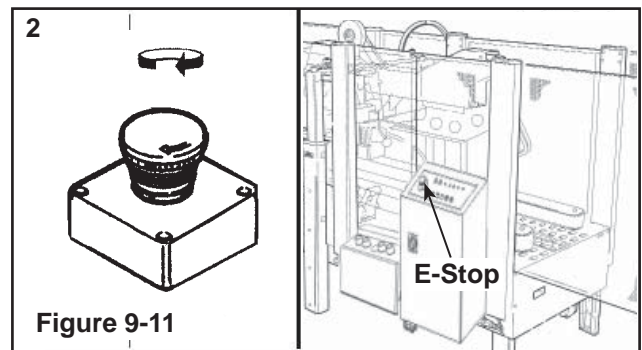

Figure 9-11
- Press START 5 push-button (**Figure 9-11**).